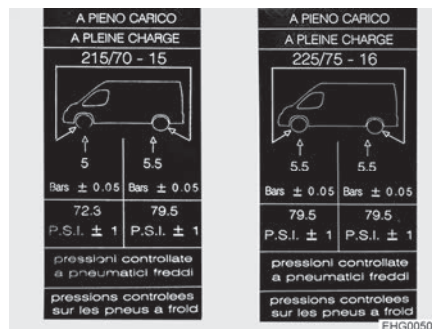

Fig. 169 Tyre pressure information sticker on B column (example)
- ▷ Information stickers with the required tyre pressure are attached to the inside of the B column (see Fig. 169).